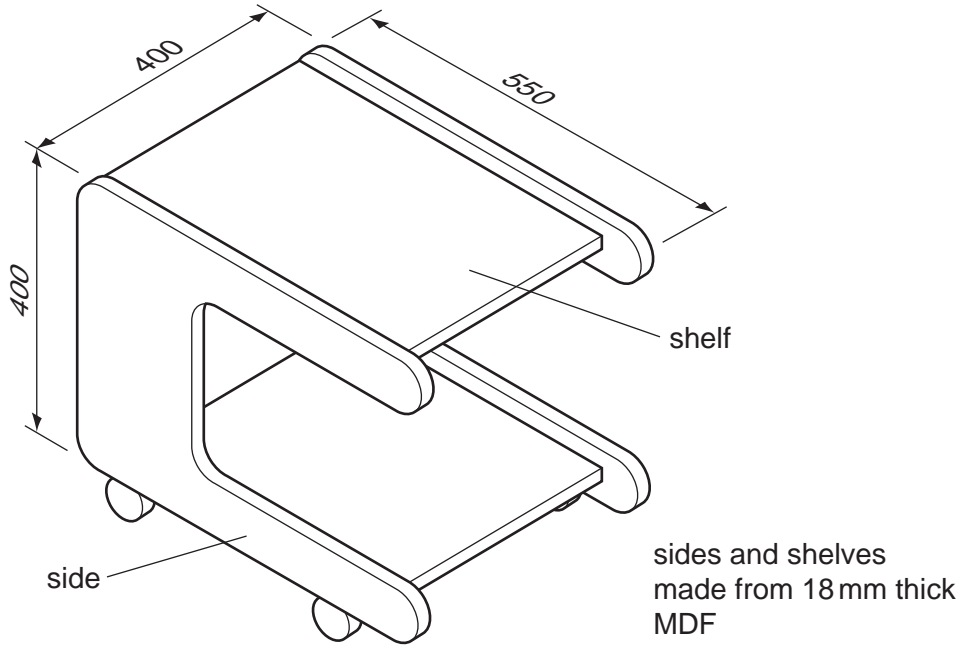

Fig. 3
- 11 Fig. 3 shows a trolley used at home.